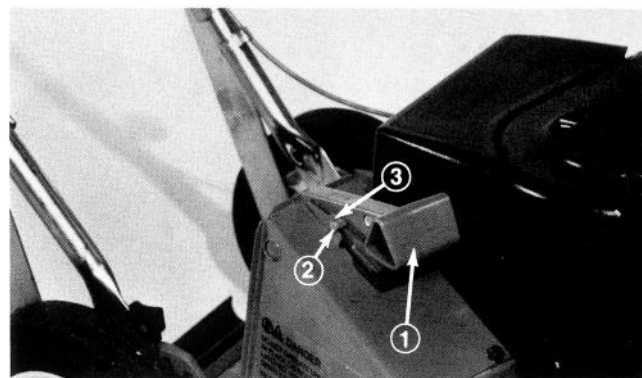

Figure 3
1. Insure mulching door handle on mower is fully forward and door is completely closed (Fig. 3).
**Note:** Latch pin must be in hook (Fig. 3).